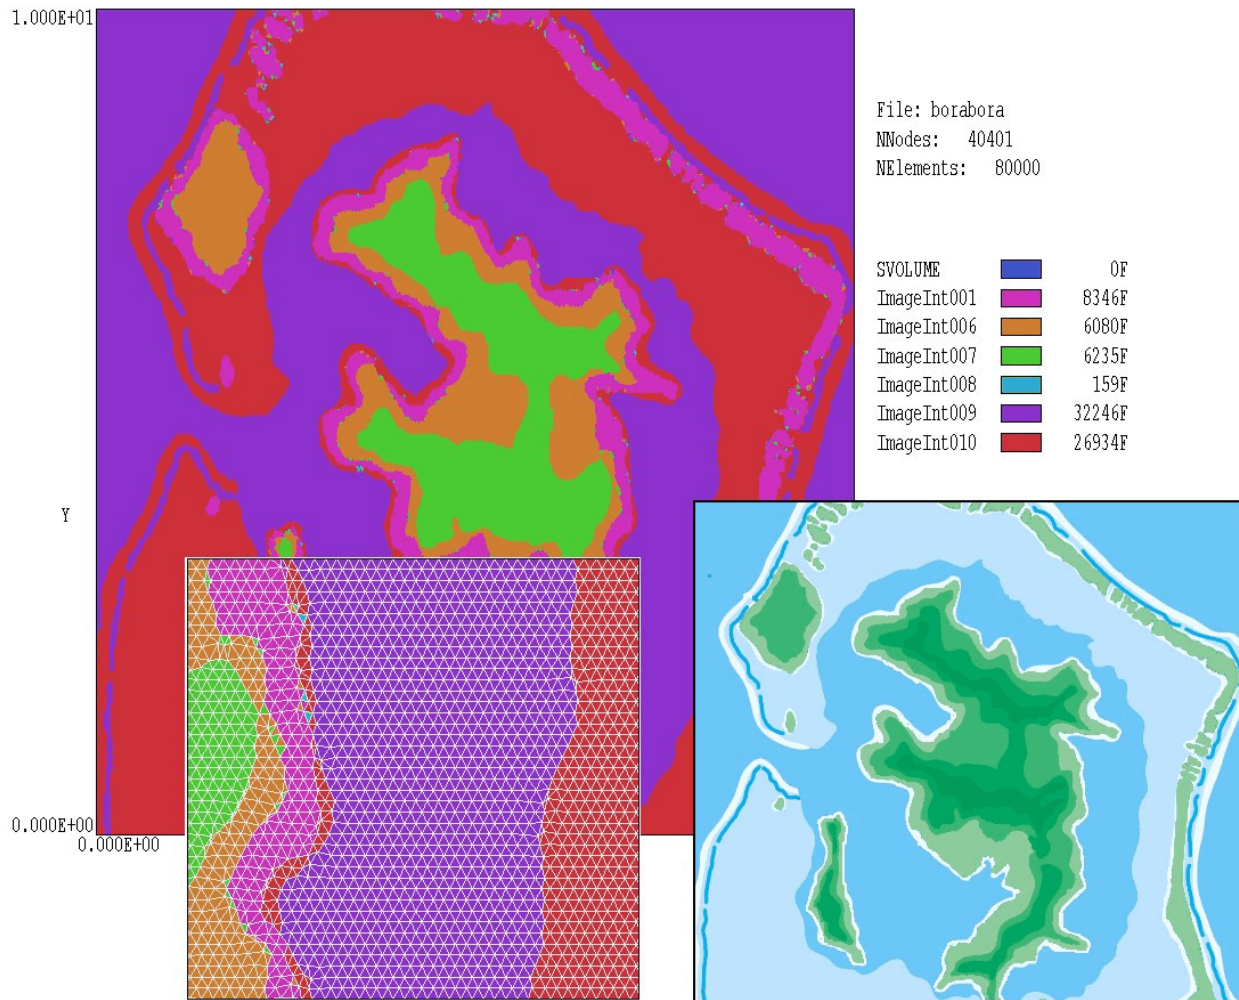

Figure 7.1. Generation of a conformal triangular mesh from a bitmap image. Lower right: input image. Lower left: detail of the mesh showing element boundaries.
Figure 7.1 illustrates an example, a mesh of Bora Bora resolved into regions by elevation. The original bitmap image is shown at bottom right. The inset at bottom left shows a details of the 40,401 node mesh with element boundaries displayed. **Mesh 5.0** required less than 2 seconds to perform the conversion.
Figure 7.4. Modification of the hues in Fig. 7.1 using the color-replacement tool in PaintShop Pro (bottom right) and the resulting mesh with regions ordered by elevation.
■ The utility of images can be greatly enhanced by pre-processing with programs like PaintShop Pro, PhotoShop or GIMP. For example, we could use the lasso method to select critical brain structures in Fig. 3 and then to change them to a distinctive color that could be easily identified by Mesh 5.0. Figure 7.4 illustrates another useful technique. The hues of the colors in the bitmap image of Fig. 7.1 have degeneracies and are not arranged by order of elevation. We could use a color replacement tool to create a bitmap image with hues arranged in the correct order (bottom right-hand side of Fig. 7.4). The resulting mesh has regions ordered by increasing elevation.